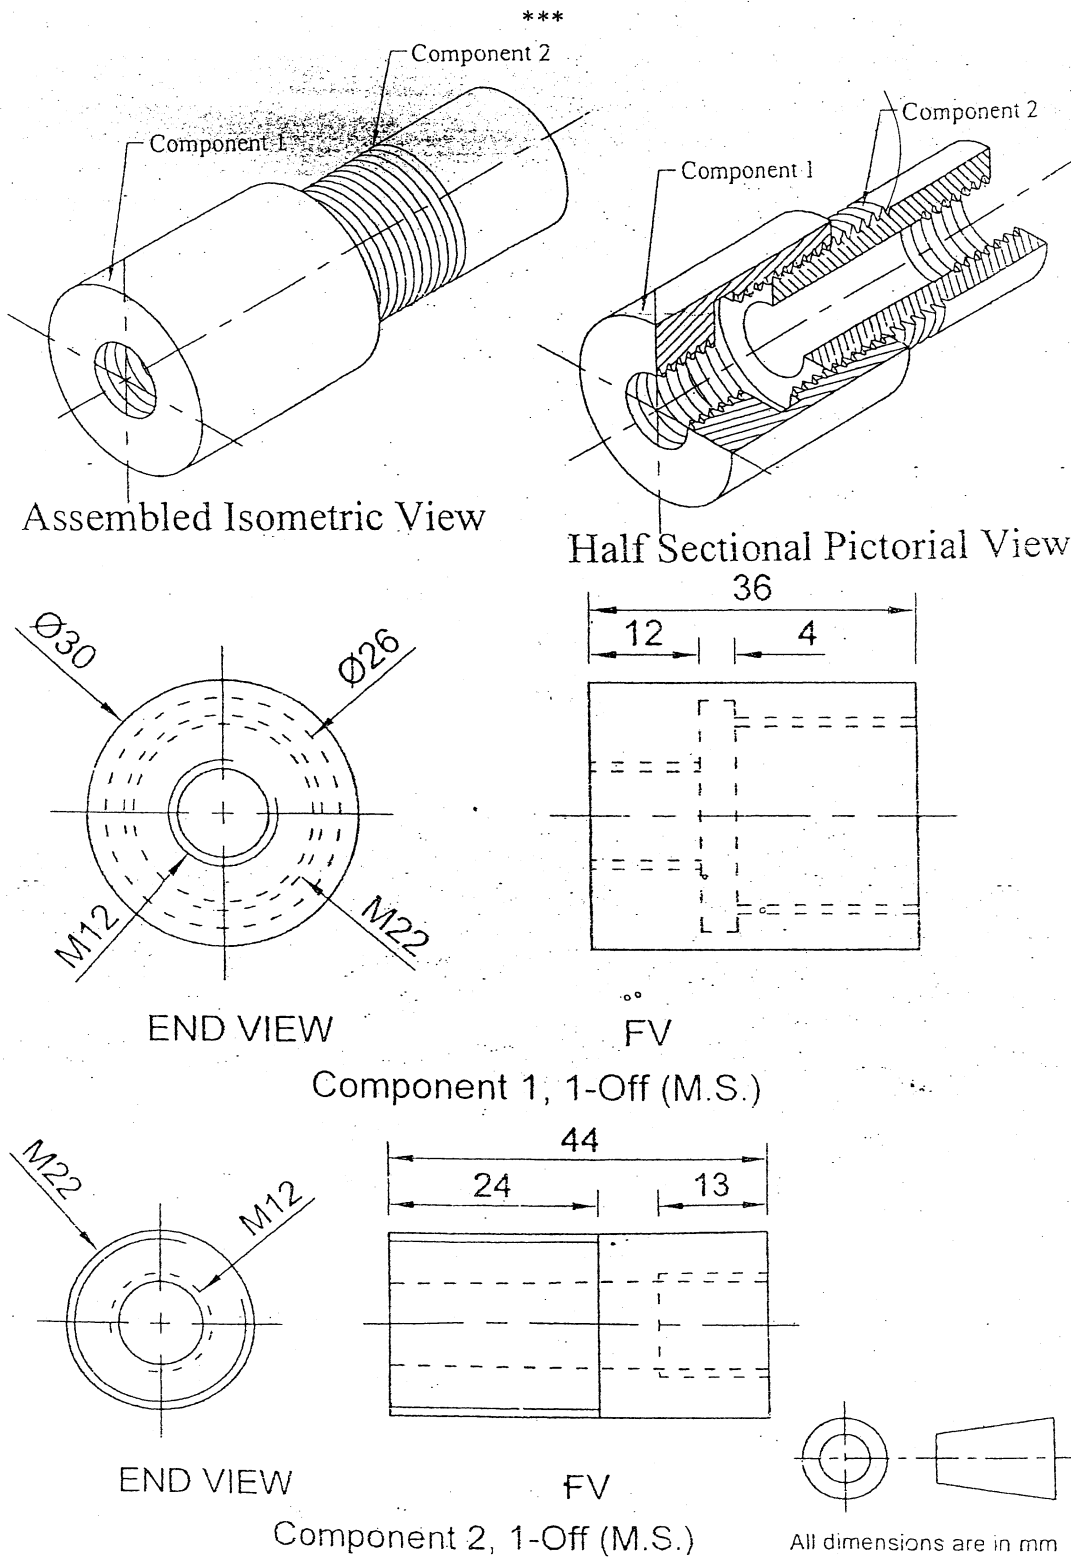

Figure 3
2. A solid box of size $60 \times 45 \times 40$ mm is resting with its base (60×45) on the ground plane. Draw its angular perspective view with its vertical faces equally inclined to the picture plane (PP) and the nearest vertical edge is touching the PP. The station point is 80mm above ground level, 40mm away from the PP and the central plane passes from the vertical edge which is touching the PP. [5]
3. The production drawing of coupling is shown in figure 3. Draw its assembled half sectional front view and side view. [15]